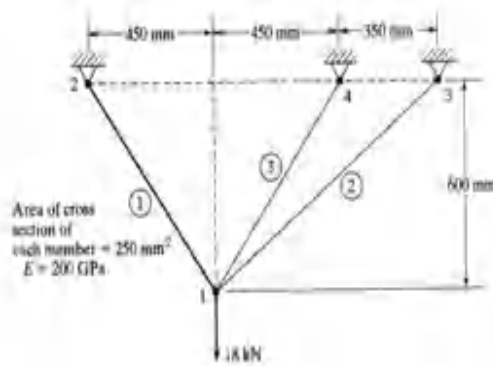

Figure-3
6. For the three member truss shown in the Figure-3 find displacement at node 1 and stresses induced in the three members [12M]